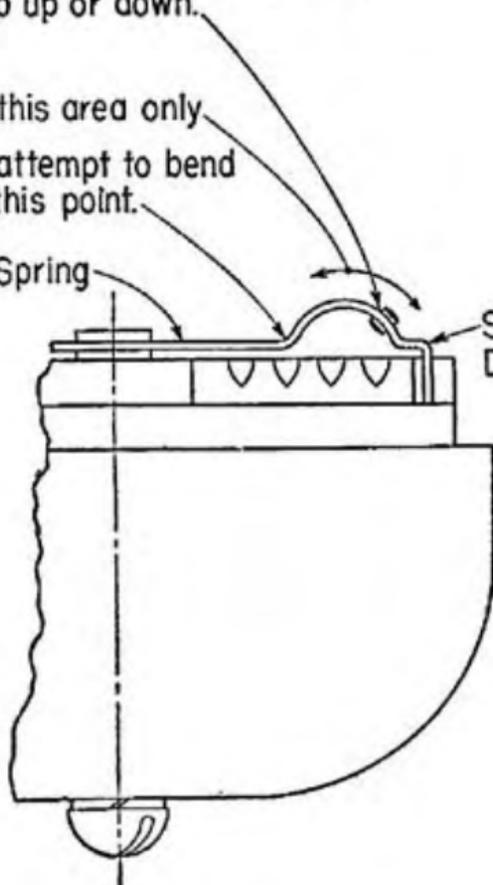

Fig. 1
4.01 If ringer cut-off feature is to be provided, the stop adjacent to the detent spring on the ringer volume control must be bent away so that it does not engage the stop on the rim of the ringer frame immediately behind the movable gong. This allows the cam section of the movable gong mounting to engage the stop rod and prevent movement of the armature and clapper (see Figs. 1, 2a, and 2b). Instruct subscriber to turn wheel as far to the right (away from loud position) as it will go to provide ringer cut-off.